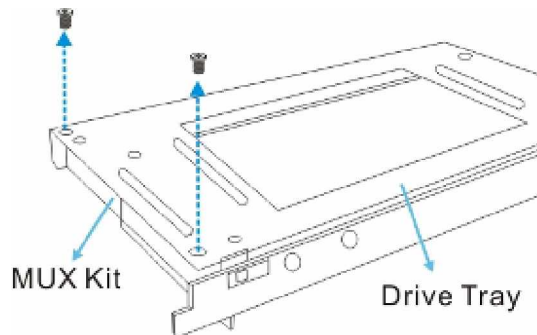

Figure 5-35: Removing the Retention Screws
-  **Step 3. Remove the two (2) MUX kit retention screws.** The MUX kit is secured on a drive tray by two (2) retention screws. Turn the drive tray over and remove these screws. (See **Figure 5-35**)